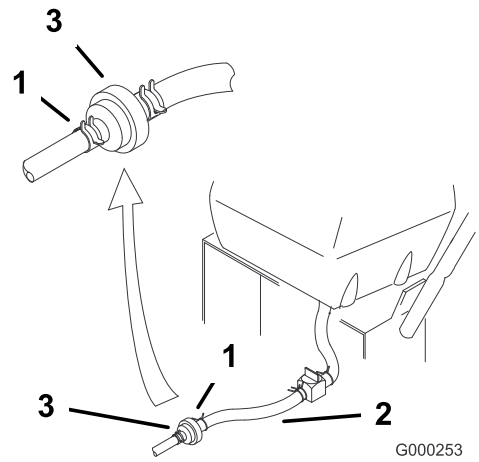

Figure 36
4. Squeeze the ends of the hose clamps together and slide them away from the filter (Figure 36).